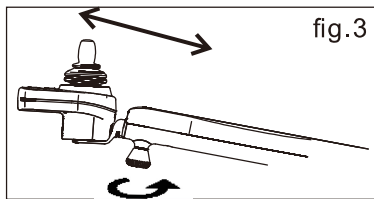

fig.3
5.1.2 Insert the controller to armrest tube (Fig.3), tighten the knob to fix the controller.